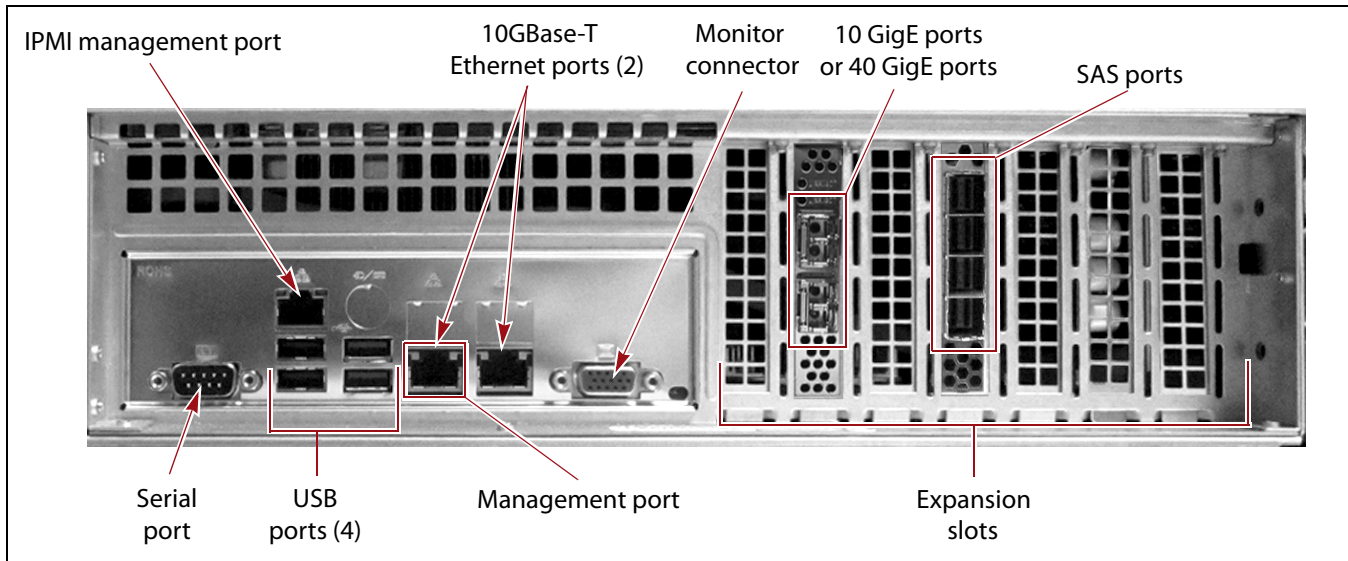

Figure 1 The rear panel components of the master nodes.
Use the instructions in this section and Figure 1 to connect network cables, install the null modem serial cable, cable the primary and secondary master nodes to the expansion nodes, connect Fibre Channel and SAS cables, if applicable, and connect power cables.
Use the instructions in this section to connect Ethernet cables to the master nodes. See Figure 1 for port location.
The data connections to each master node must be identical, the same ports connected in the same way to the same network, on both the primary and secondary master node. See Figure 1 on page 10 for port location.
1. Locate the serial port on the back of the **primary master node**. See Figure 1 on page 10.
1. Locate the SAS ports on the back of the **primary master node** (see Figure 1 on page 10). If you have more than two expansion nodes or tape libraries with SAS drives, additional SAS cards are installed in the master node.
1. Locate the SAS ports on the back of the **secondary master node** (see Figure 1 on page 10). If you have more than two expansion nodes, additional SAS cards are installed in the master node.
For BlackPearl configurations with tape libraries, use the appropriate cables to connect the tape drives in the library to both of the master nodes. See Figure 1 on page 10 for port locations.
Use the following steps to connect the power cords to all master nodes and expansion nodes in the system. See Figure 1 on page 10 for AC power connector locations.
1. Connect a monitor and USB keyboard to the **primary master node**. See Figure 1 on page 10 to locate the monitor and USB connectors. The Console screen displays. Verify the Console screen indicates that it is the active node.